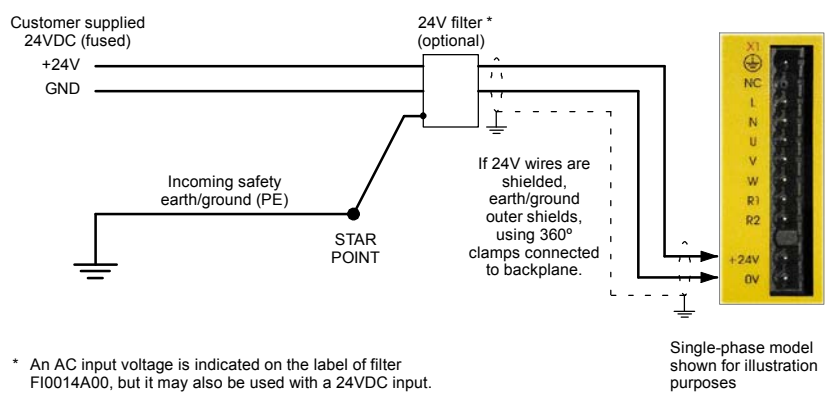

Figure 6 - Customer supplied 24V supply connections
- Note:** The label on filter FI0014A00 *correctly* indicates that it is designed for connection to AC power supplies. However, this filter has been tested and is suitable for use with a 24VDC input as indicated in Figure 6. Do not attempt to use an alternative AC power filter as a 24VDC input filter.